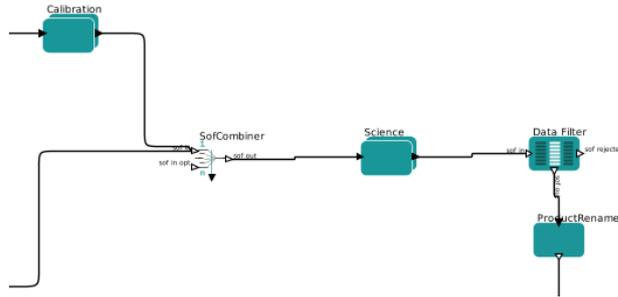

Figure 8: *Layout of the workflow with a DataFilter and a ProductRenamer.*
13. Optionally, a `DataFilter` actor can be put before the `ProductRenamer` to save only a selection of the products created by the science recipe. Figure 8 shows the final layout of this second part of the workflow.